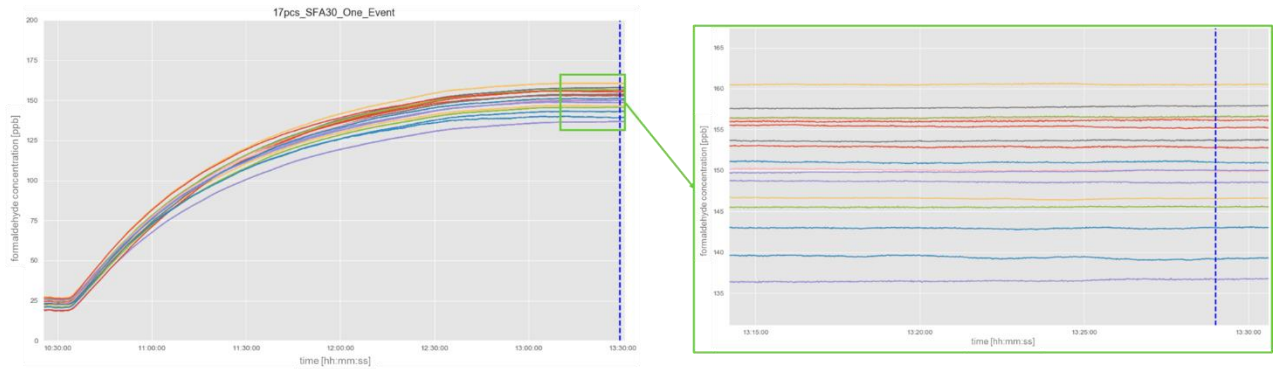
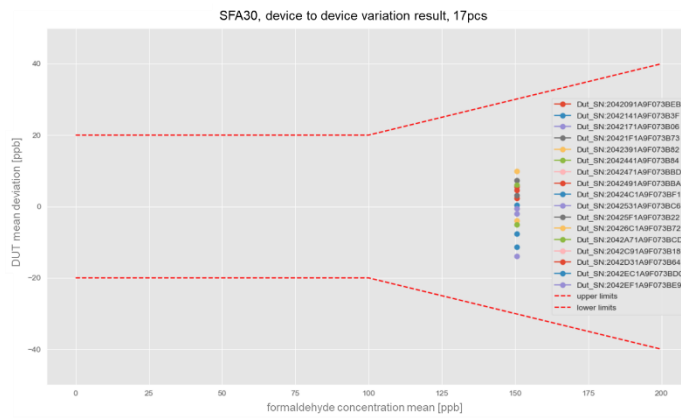

Figure 1 Experimental data and steady sensor response for device-to-device variation analysis
Figure 2 Results of d2d evaluation with specified limits
A common performance indicator, often called device-to-device (d2d) variation, evaluates the difference between the mean value of a set of sensors and the individual value of each sensor from that set. The formulas for calculating the device-to-device variation is given in equation (1) and (2). Figure 1 and Figure 2 show data from an example d2d test in an acrylic box with POM material as formaldehyde source as described in the previous paragraphs.